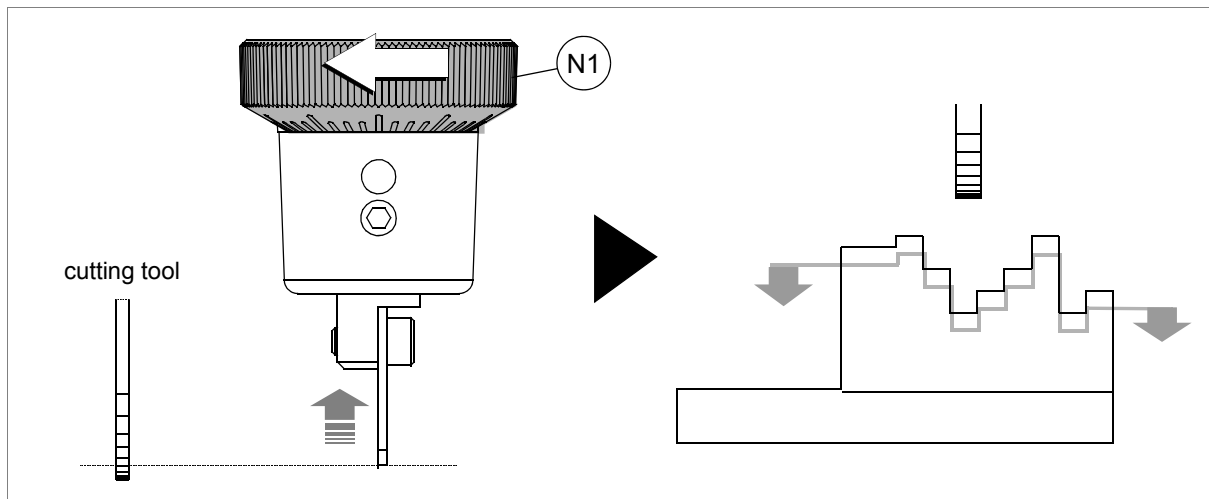

Fig. 22
- turn the ring nut (N1) anticlockwise to return (fig. 22).